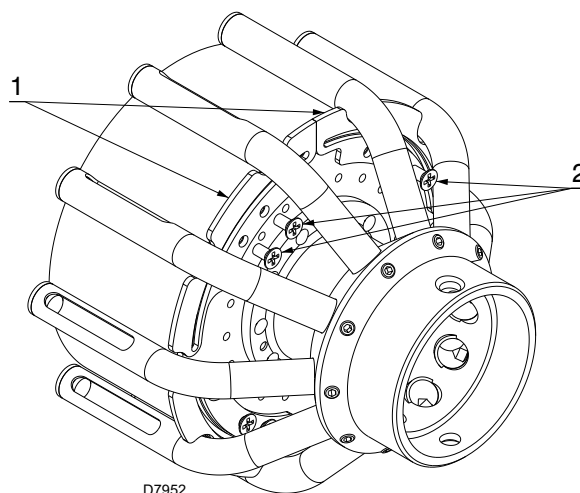

Fig. 18
- remove the 8 screws 2) (Fig. 18);